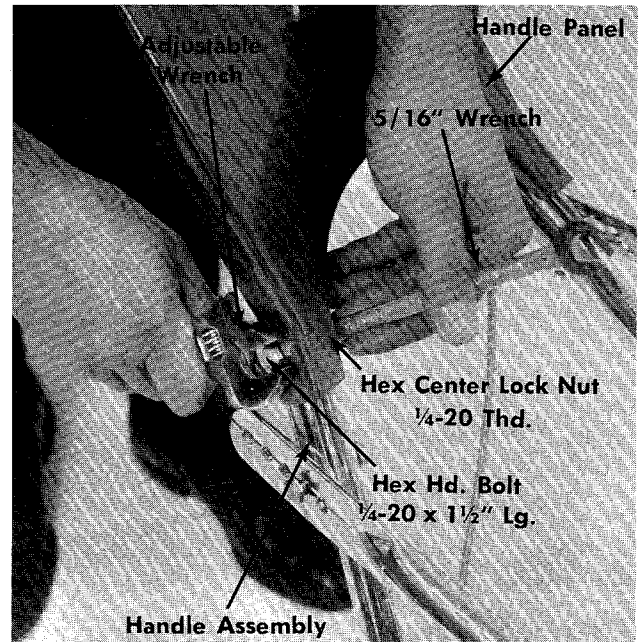

**FIGURE 13. THROTTLE ASSEMBLY TO PANEL**
- a. Start the two (2) self tapping screws 8-32 x  $\frac{1}{2}$ " in by hand which hold the throttle control to the handle panel. See figure 13.
- b. Secure two (2) Self Tapping Screws 8-32 x  $\frac{1}{2}$ " holding throttle control to handle with a screwdriver tightly. See figure 13.